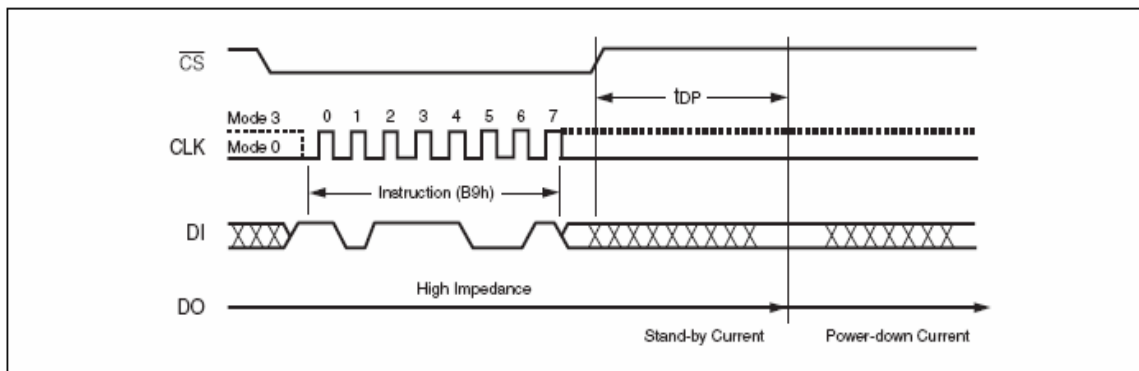

Figure 14. Deep Power-down Instruction Sequence Diagram
The instruction sequence is shown in Figure 14..Chip Select (CS#) must be driven High after the eighth bit of the instruction code has been latched in, otherwise the Deep Power-down (DP) instruction is not executed. As soon as Chip Select (CS#) is driven High, it requires a delay of  $t_{DP}$  before the supply current is reduced to ICC2 and the Deep Power-down mode is entered.